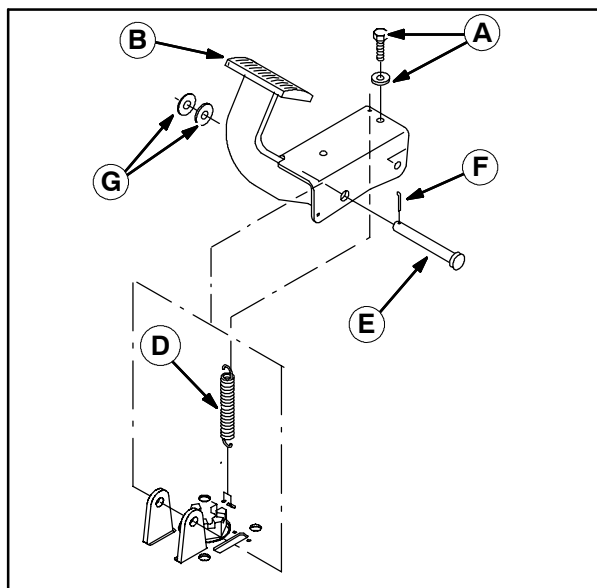

FIG. 8
8. Remove the hardware (A) securing the brake pedal assembly (B) to the machine. Set aside all loose parts. Refer to Fig. 8.
9. Remove the clevis pin (E), cotter pin (F), and washers (G) from the brake pedal assembly (A). Set aside all loose parts. Refer to Fig. 8.
10. Disconnect the extension spring (D) from the brake pedal assembly (A). Set aside all loose parts. Refer to Fig. 8.